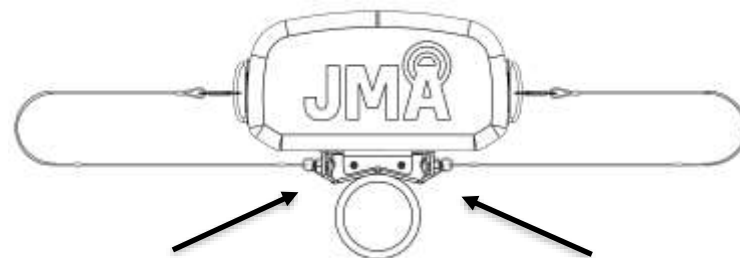

Figure 19: Pulling the wire cables to release
2. For an 8' antenna, simultaneously pull the wire cables on each side to release the pins that keep the antenna in the closed position. See *Figure 19*.